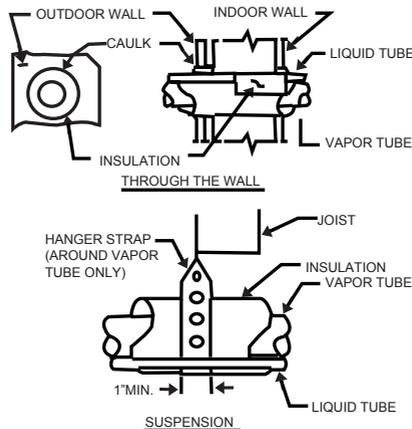

Fig.4 – Connecting Tubing Installation
- 5). When passing refrigerant tubes through the wall, seal opening with RTV or other pliable silicon--based caulk.(See Fig. 4.)
- 7). Do not suspend refrigerant tubing from joists and studs with a rigid wire or strap which comes in direct contact with tubing. (See Fig. 4.)
- 9). When necessary, use hanger straps which are 1 in. wide and conform to shape of tubing insulation. (See Fig. 4.)